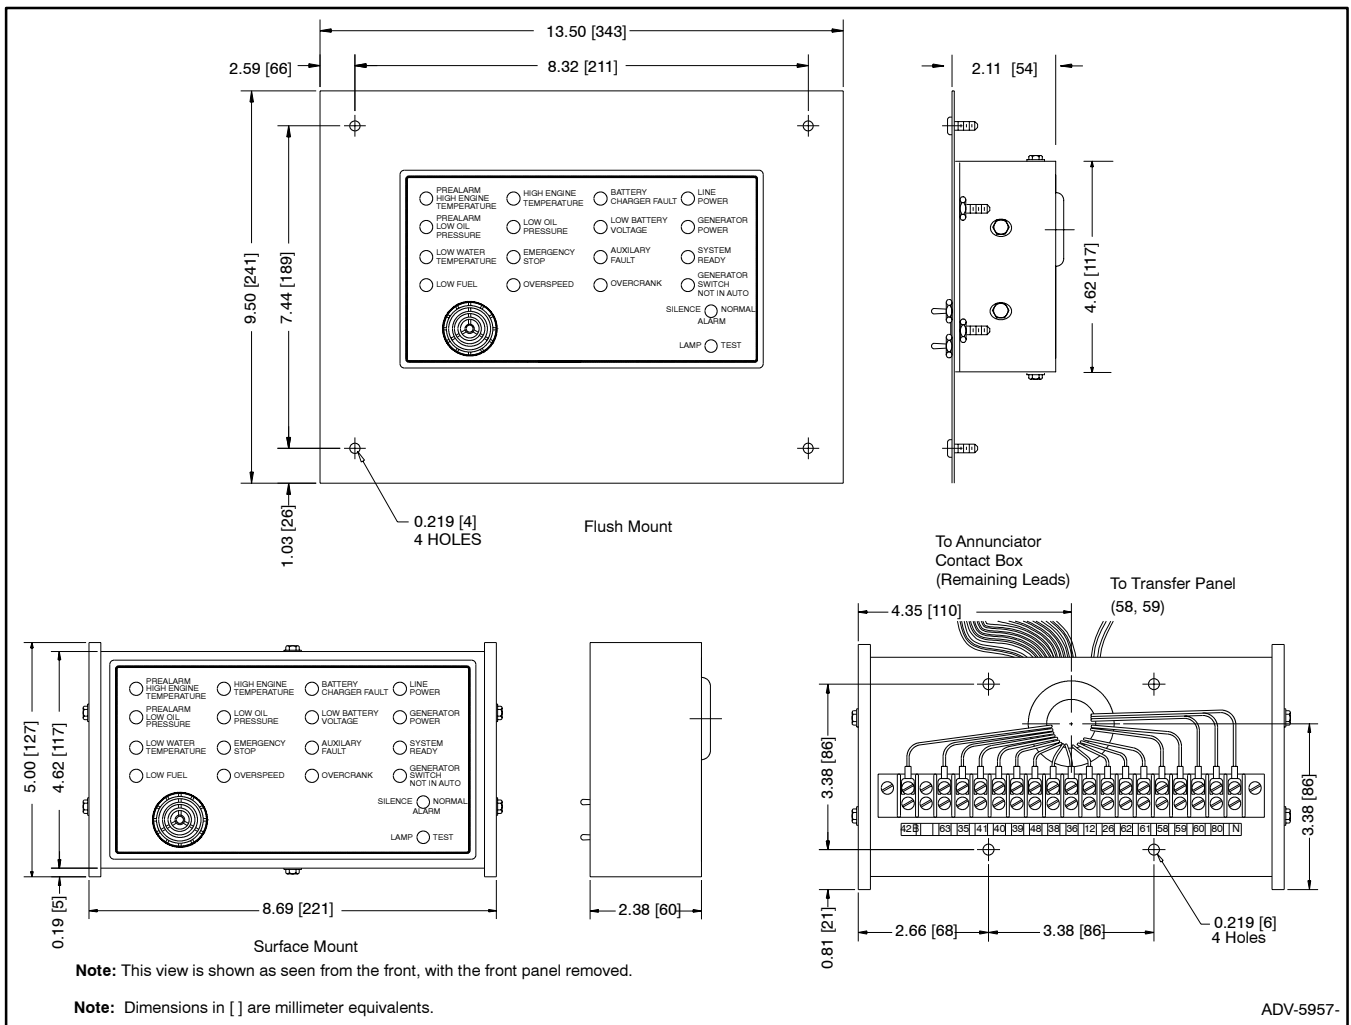

Figure 8 Component Dimensions
- 4.1 Select a visible location for mounting the remote annunciator panel. Install the remote annunciator panel, either surface- or flush-mounted, in a location easily observable by operating personnel at their work stations. See Figure 8 for remote annunciator dimensions and mounting hole dimensions.
- 4.2.4 Mount the remote annunciator back panel to the wall or to the electrical box in the wall. See Figure 8 for the mounting hole dimensions. Protect the remote annunciator from dust and debris when drilling the holes.